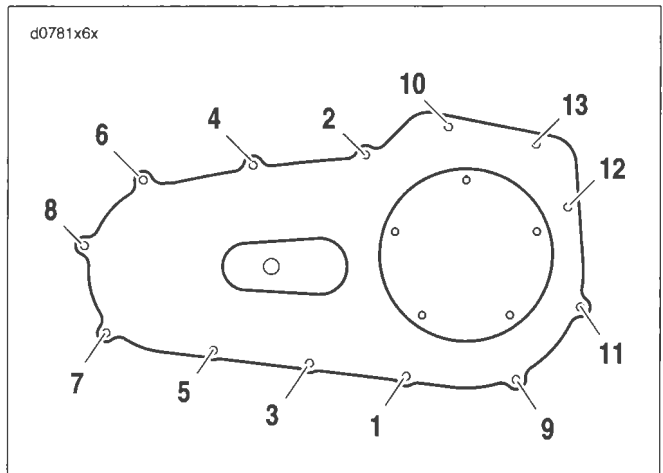

Figure 6-4. Primary Chaincase Cover Torque Sequence
3. See Figure 6-4. Tighten primary cover fasteners (1-13) to 108-120 in-lbs (12.2-13.6 Nm) in the sequence shown.